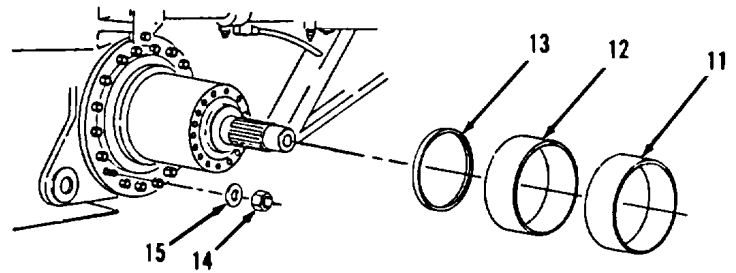
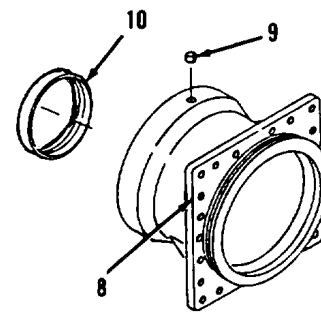

Figure 5-130.
Figure 5-129.
18. Position items 39 thru 16 as an assembly on studs of vehicle. Remove hoist and bracket and install 19 washers (15) and nuts (14, Figure 5-130). Tighten nuts (14) to 285 to 315 ft-lb torque.
19. Apply grease to washer (13) and install.
20. Lubricate outside surface of housing (39) and rings (12 and 11) with oil and install rings (12 and 11).
21. Apply oil to new seal (10) and install seal (10) and plug (9) in housing (8, Figure 5-129).